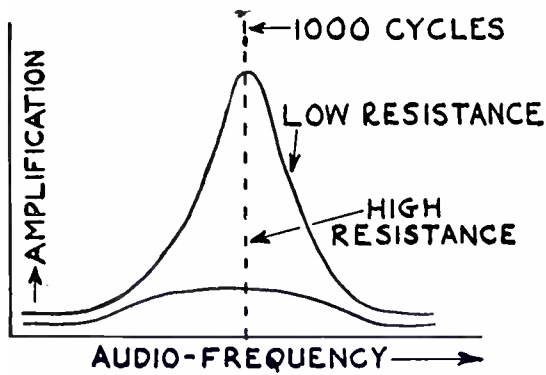
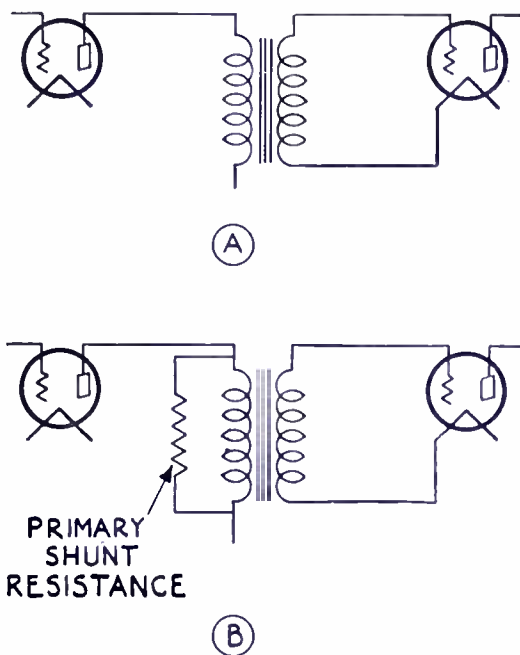

FIG. 4
FIG. 5
Amplification curves of audio transformers with and without shunting resistances as in Fig. 5.
A. Audio amplifier using ordinary amplifying transformer. B. Same transformer used with a primary shunt resistance. Curves for these amplifiers are shown in Fig. 4.
The resonance effect, shown in the upper curve of Fig. 4, for a transformer, can be prevented by shunting the transformer primary with a resistance. If this is done, the "selectivity" of the audio amplifier as well as its amplification are reduced. "Selectivity" in a broadcast amplifier is exactly what is not desired; for some frequencies are favored, resulting in distortion. The connections of an audio amplifier, with and without the shunting resistance, are shown in Fig. 5. In code work, however, a selective audio amplifier is highly desirable, as will appear later.